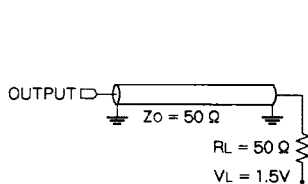
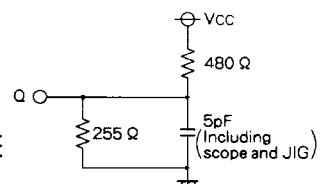

Fig.1 Output load
Fig.2 Output load for t_{en}, t_{dis}
Output loads Fig.1, Fig.2
- 3. Transition is measured $\pm 500mV$ from steady state voltage with specified loading in Figure2.